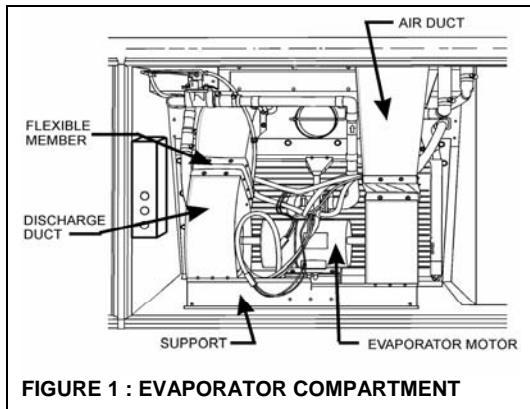
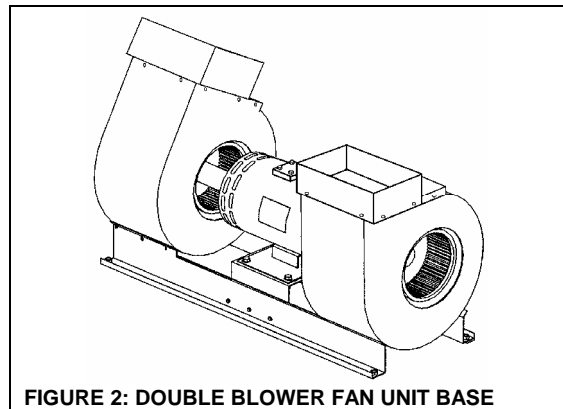

FIGURE 1 : EVAPORATOR COMPARTMENT
FIGURE 2: DOUBLE BLOWER FAN UNIT BASE
3. On both air duct, unfasten all screws (figure 1) fixing the fan blower units to the discharge air ducts
5. From under vehicle, unfasten eight (8) bolts retaining double blower fan unit base to vehicle.
6. Remove double blower fan unit complete with base from evaporator compartment (figure 2).